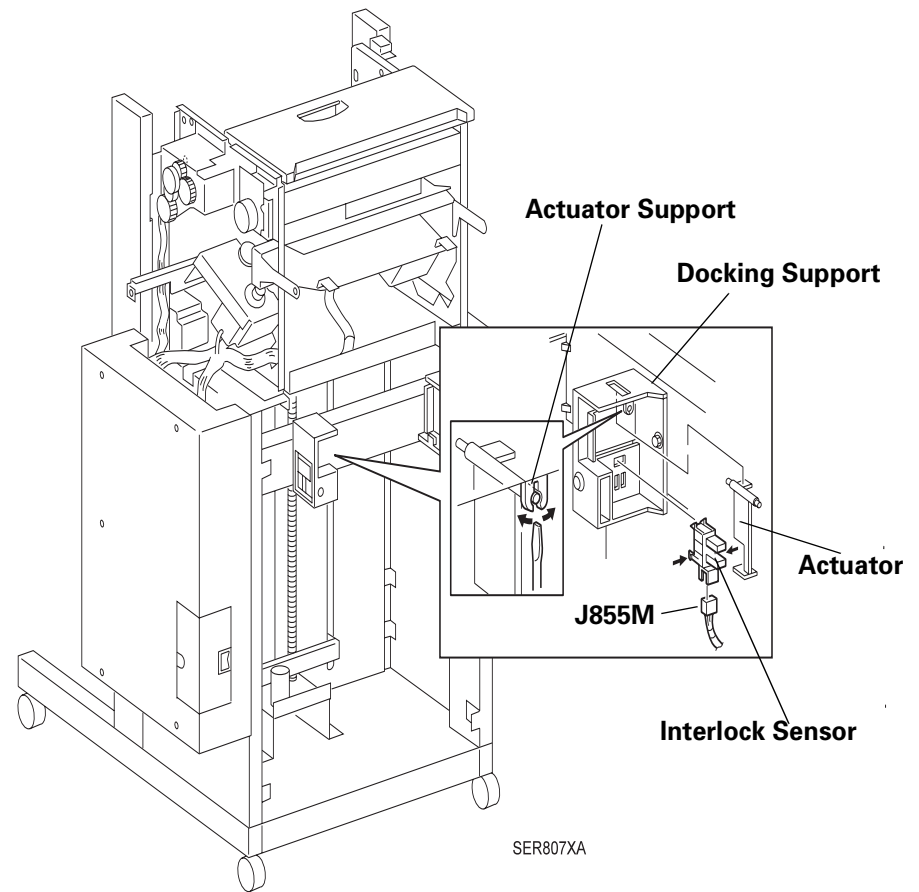

Figure 3-18. Finisher Stapler Interlock Sensor and Actuator
1. Place the Actuator as shown in the Figure 3-18.
6. Place the Interlock Sensor as shown in the Figure 3-18 and push the rear latches of the Sensor into the four holes of the Docking Support.